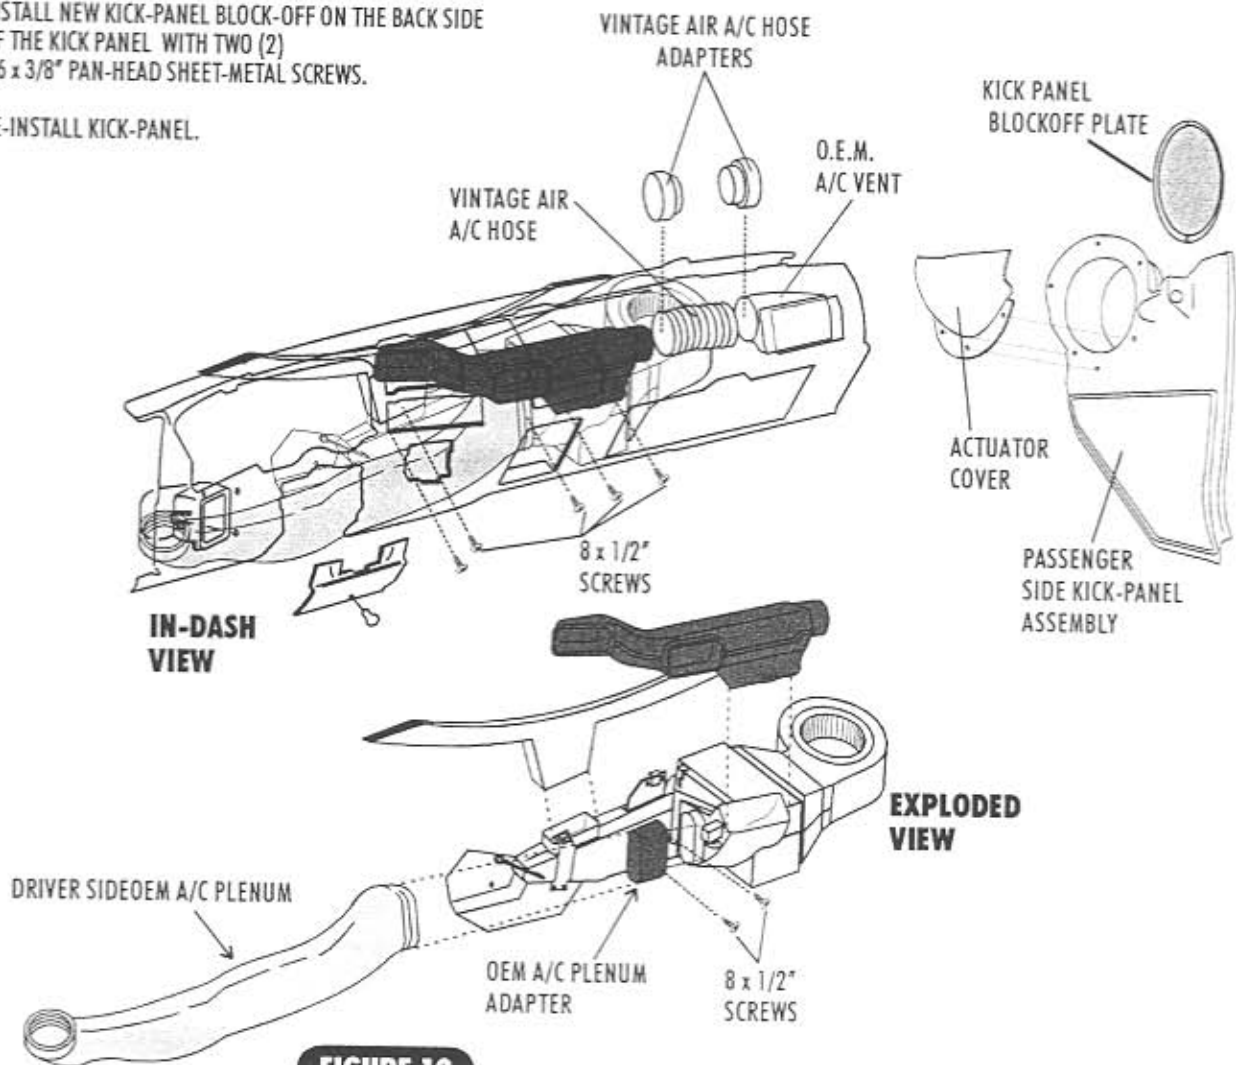

FIGURE 10
4. ATTACH THE DEFROST PLENUM TO THE EVAP WITH TWO 8 x 1/2" SCREWS AS SHOWN IN FIG 10. ATTACH THE DEFROST PLENUM BRACKET TO THE FIREWALL WITH TWO 6 x 3/8" SCREWS AS SHOWN IN FIG 9.
3. ~~CHECK FOR A/C PRESSURE IN THE SYSTEM BY PRESSING THE A/C SWITCH ON THE CONTROL PANEL. THE PRESSURE SHOULD BE 20-30 PSI. IF THE PRESSURE IS LOW, RECHARGE THE SYSTEM. IF THE PRESSURE IS HIGH, REPAIR THE SYSTEM. IF THE PRESSURE IS NORMAL, PROCEED WITH THE INSTALLATION.~~ CHECK FOR A/C PRESSURE IN THE SYSTEM BY PRESSING THE A/C SWITCH ON THE CONTROL PANEL. THE PRESSURE SHOULD BE 20-30 PSI. IF THE PRESSURE IS LOW, RECHARGE THE SYSTEM. IF THE PRESSURE IS HIGH, REPAIR THE SYSTEM. IF THE PRESSURE IS NORMAL, PROCEED WITH THE INSTALLATION. USE THE INCLUDED ADAPTER TO MAKE THE CONNECTION TO THE EVAPORATOR A/C PLENUM. (SEE FIG 10, PAGE 7).
1. INSTALL THE PASSENGER SIDE HOSE ADAPTERS, AND CONNECT THE 3" O.D. X 12" LONG DUCT HOSE.. SEE FIGURE 10, PAGE 7.